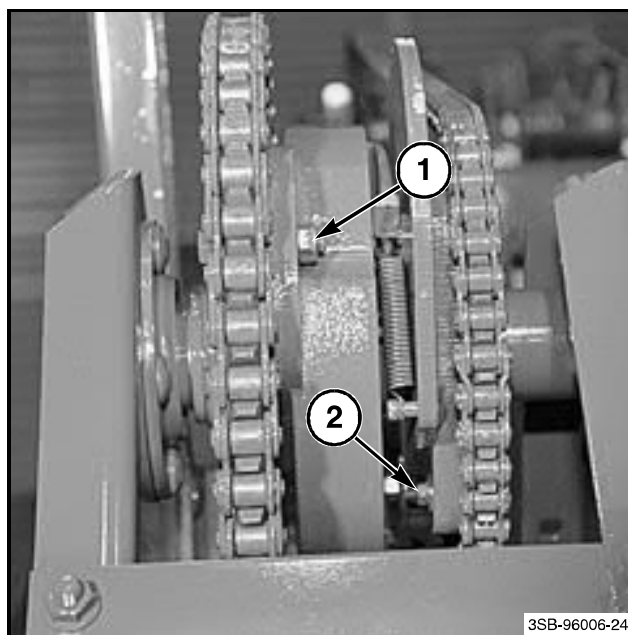

FIG. 12
FIG. 12: The stuffer shearbolt (1) connects the drive hub to the stuffer sprocket. When the stuffer shearbolt shears, the stuffer and pickup assembly will not run.